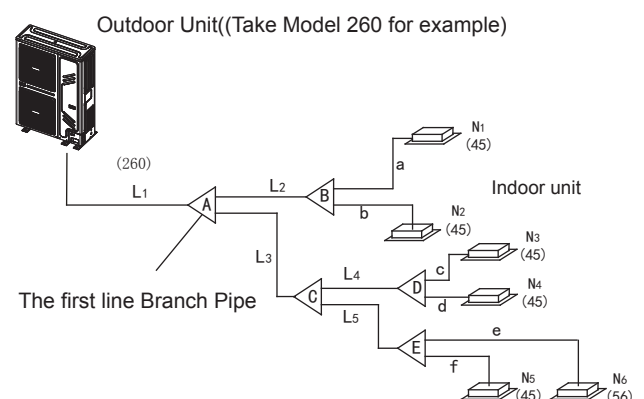

Fig. 4-6
- Main pipe (Please refer to Fig.4-6 and Table 4-4)
In Fig.4-6, the main pipe L1, the outdoor unit capacity is 26kW, and check the Fig.4-6 to get the size of gas pipe/liquid pipe is $\Phi 22.2/\Phi 9.5$, and also the total equivalent length of liquid side and gas side pipes is $> 90\text{m}$, then check the Table 4-4 to get the size of gas pipe/liquid pipe is $\Phi 25.4/\Phi 9.5$, and according to the maximum value principle, it should apply the $\Phi 25.4/\Phi 9.5$.